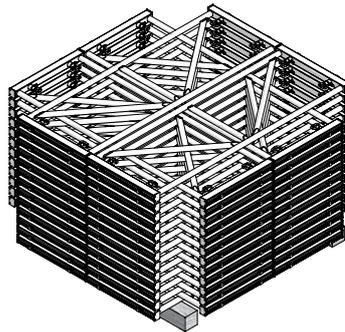

Fig. 35.3 Bundle of frames 170 MEP
- 50 frames 170 MEP: 495 kg (Fig. 35.3)